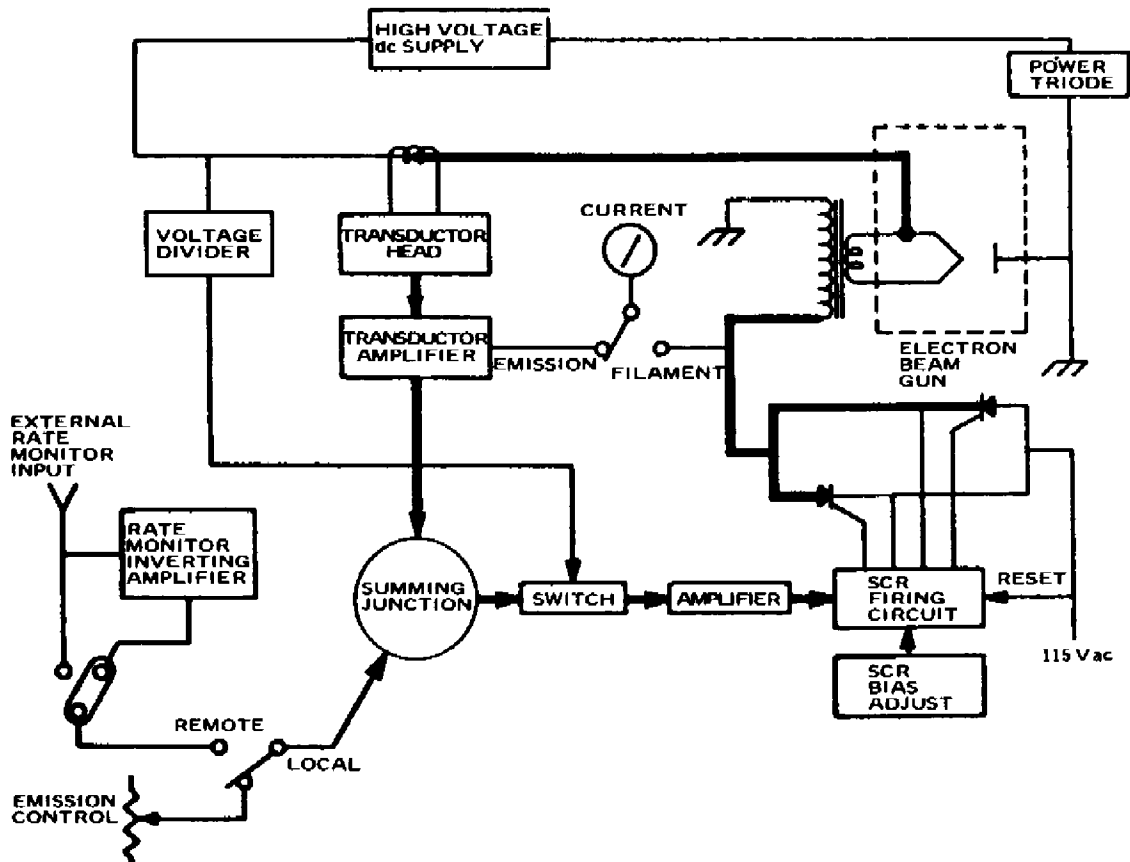

Figure 5-7. CV-8 A and B emission current regulation block diagram
5.3.1 Overall Operation (Figure 5-7)